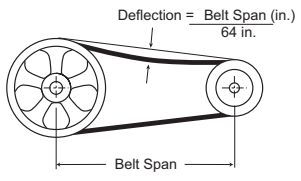

Figure 7
- Install the belt and adjust the tension to allow for 1/64" of deflection per inch of span when moderate thumb pressure is applied to the belt. Adjust belt using the motor plate adjusting brackets as shown in Figure 7. Too much tension will cause excess bearing wear and noise. Too little tension will cause slippage at startup and uneven wear.